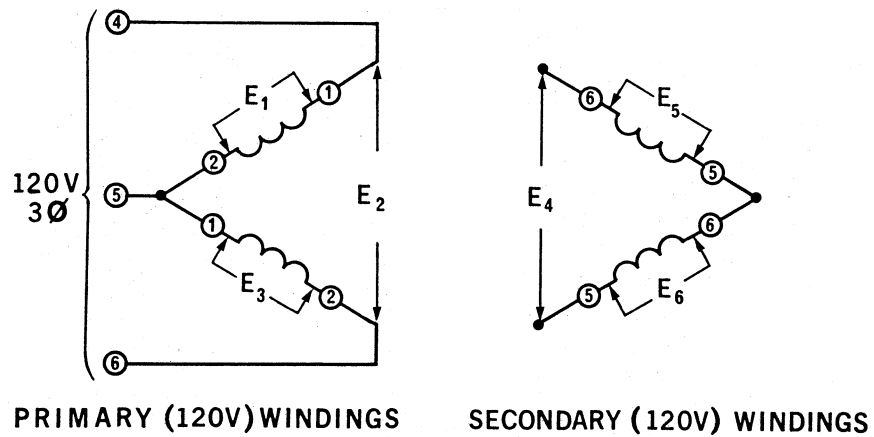

Figure 1-9.
5. a. The circuit shown in Figure 1-9 has two transformers connected in a open-delta configuration.